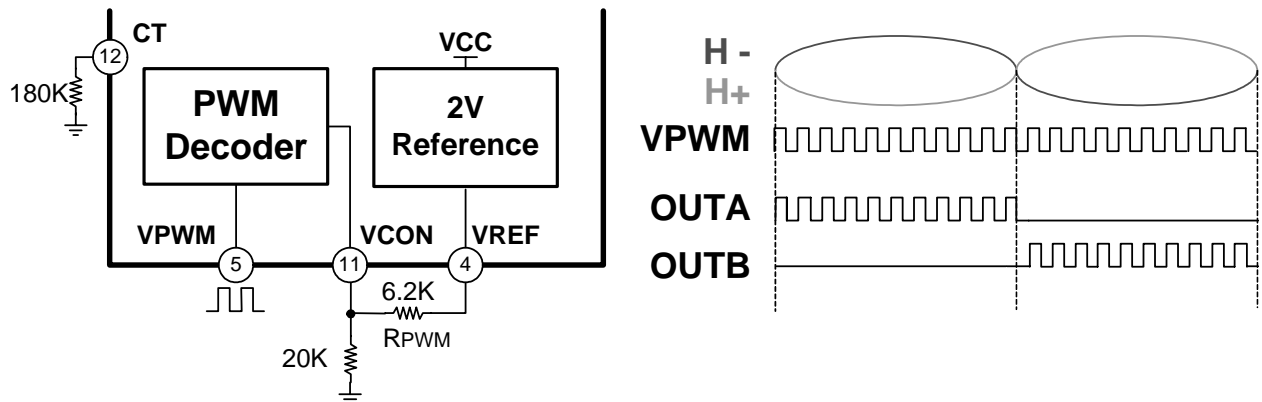

Figure 6. Interface and it's Related Waveforms Scheme3
This scheme indicates that digital PWM input signal becomes directly output PWM signal. In other word, frequency and duty of output PWM driving signal is the same as this digital PWM input. In case input PWM frequency is very low, active filter needs large value of capacitor to make speed control voltage in scheme 2. This scheme dosen't need filter capacitor and has good input/output characteristics. This means that there is no deadband and output signals are synchronized with input VPWM signal as shown in figure6.
When the rotor is locked, there is no change in input signal of hall amplifier and thus a internal TZERO pulse is not observed. A capacitor (C_{LD}) connected LD pin is continually charged by internal current source (i_{LDC}) to the internal threshold (V_{LDCL}) resulting from no Tzero pulse. When the voltage, V_{CLD} on LD pin, reaches V_{LDCL} , high side output power TR is turned-off to protect motor during T_{OFF} and the alarm output (AL) becomes floating high. When the V_{CLD} reaches upper threshold, V_{LDCL} , V_{CLD} starts to decrease with internal current sink (i_{LDD}) to the low threshold, V_{LDCL} . At that time, the V_{CLD} ramps up again and one of two outputs is turned on depending on locked rotor position during T_{ON} . The charging and discharging repeat until locked condition is removed, or FAN8460MTC/FAN8460MP is powered down. The overall time chart is shown in figure.6. The auto- retry time (T_{ON}), the motor protection time (T_{OFF}) and the locked rotor detection time (T_{LOCK}) are proportional to external capacitor, C_{LD} . Each value can be calculated as follows;